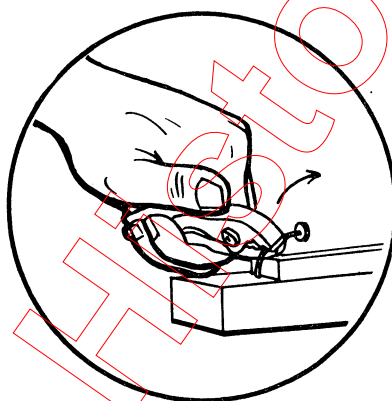

Fig. 11
- Use it to remove nails or brads. Pull the nail out at the same angle it was driven in. Use small blocks under the pliers if you need leverage. (Fig. 11)